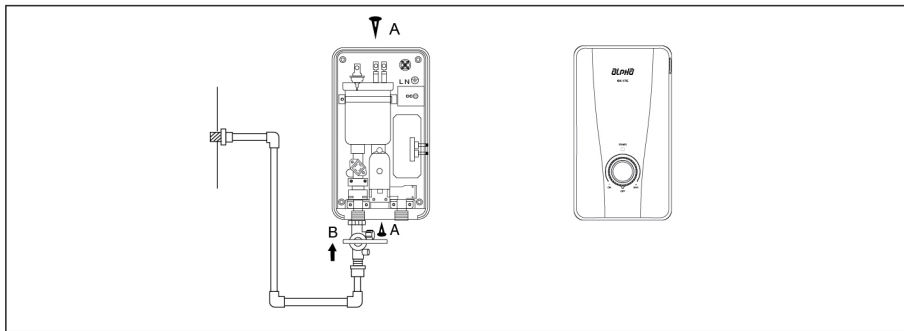

Fig. 3 - General Layout
- c. Replace the cover and secure 2 screws marked 'A' as in Fig. 3.